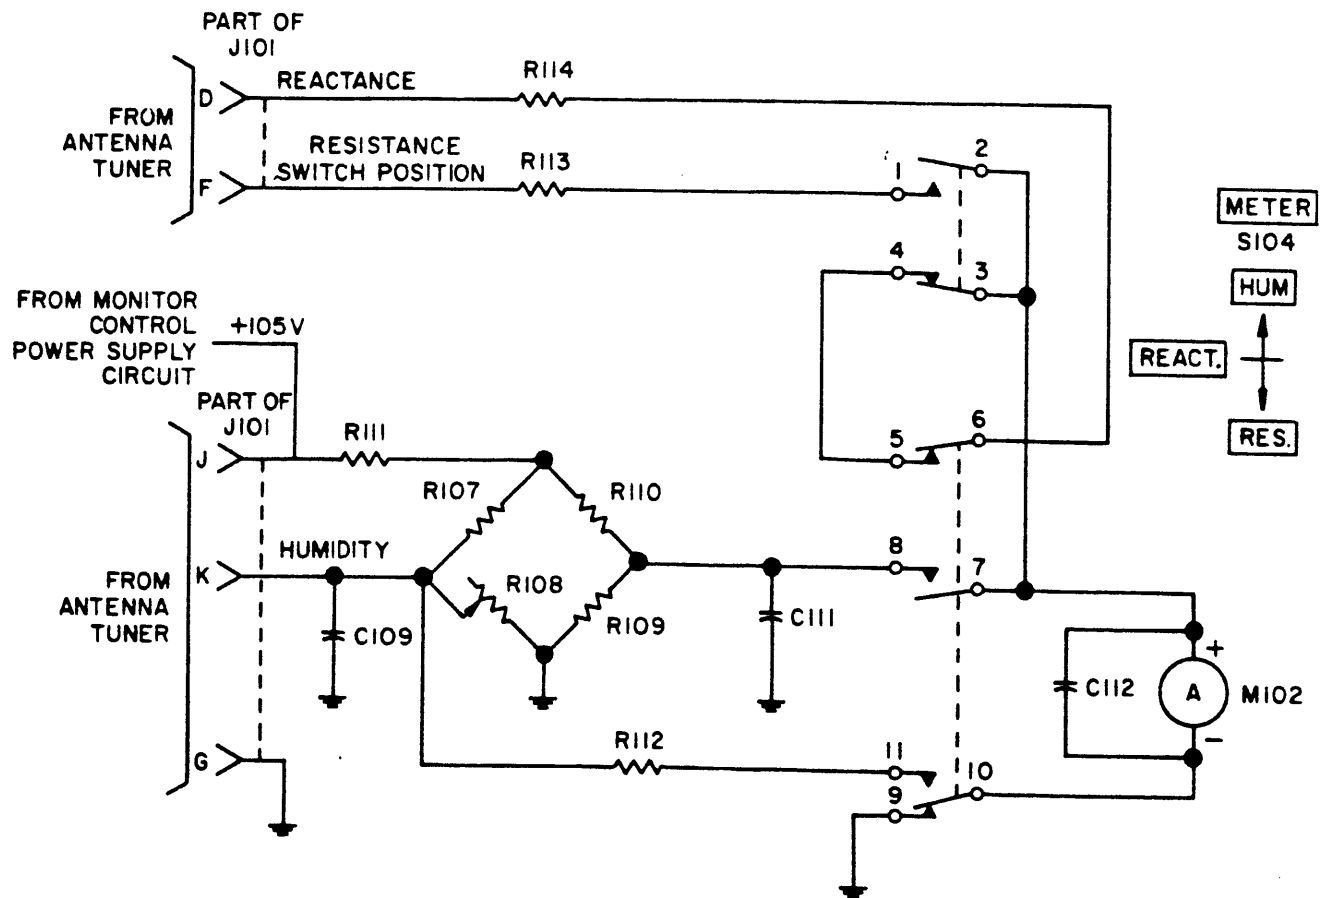

Figure 4-5. HUM./REACT./RES. Meter Circuit, Simplified Schematic Diagram
b. HUM./REACT./RES. METER CIRCUIT. - The meter circuit, Figure 4-5, provides visual indications of humidity, amount of reactance added, and resistance switch position in the antenna tuner.